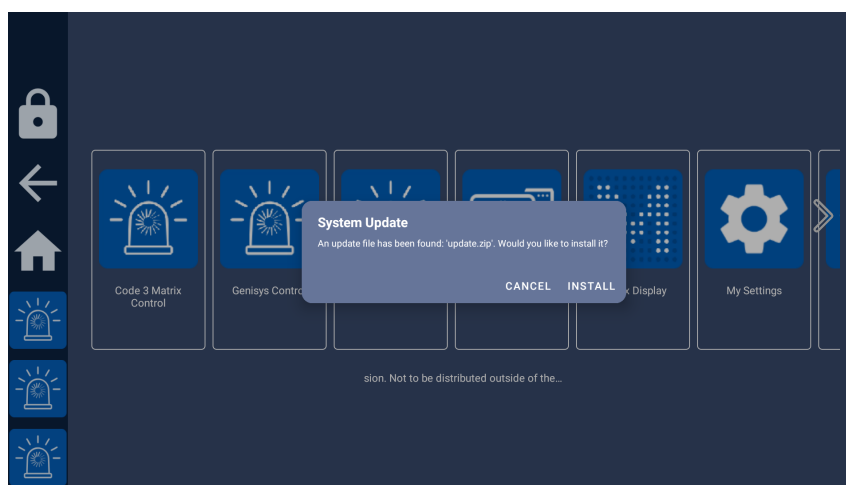
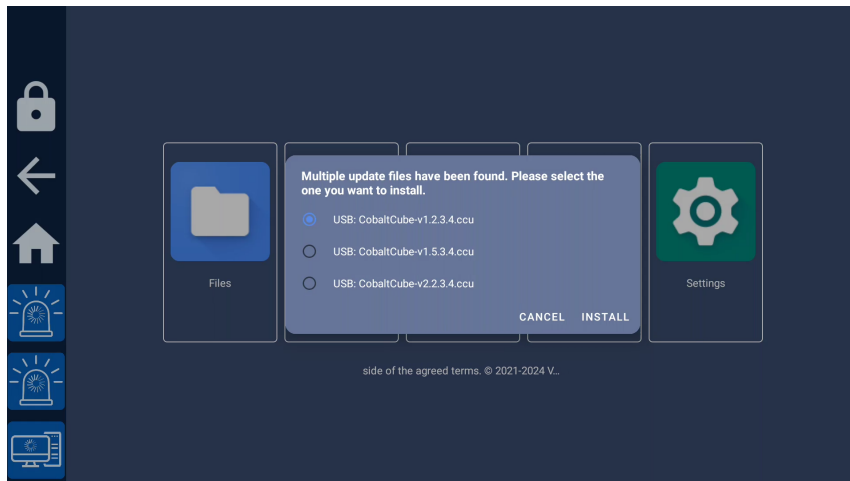

Figure 31: Update dialog
Figure 32: Update dialog
4. After a few seconds, a dialog will pop up, notifying that an update has been found on the USB drive (see Figure 31). Select "Install" to install it. If more than one update file is found you will be asked to select which you want to install (see Figure 32).